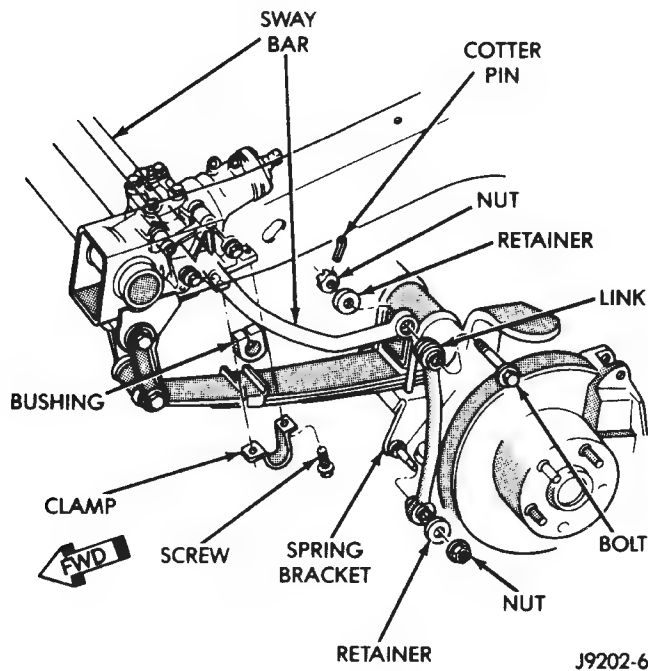

Fig. 2 Stabilizer Bar
- (1) Raise and support the vehicle.
- (2) Remove the retaining nut from the connecting link bolt (Fig. 2).
- (3) Remove the retaining clamps from frame rails
- (4) Remove the stabilizer bar.
- (1) Inspect the stabilizer bar bushings (Fig. 2). Replace the bushings if cracked, cut, distorted, or worn.